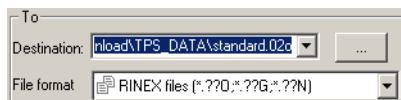

Figure E-25. Destination for Converted File
6. Click **Select**. The full path of the file displays in the *Destination* field (Figure E-25).